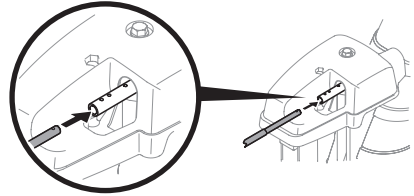

Figure 14
2. Insert chute control rod into chute control head. Push rod as far into chute control head as possible, keeping holes in rod pointing upward (Figure 14).